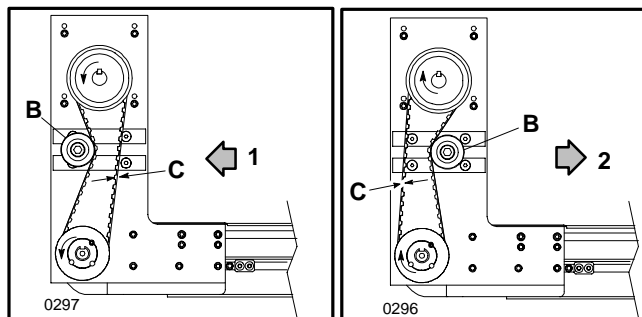
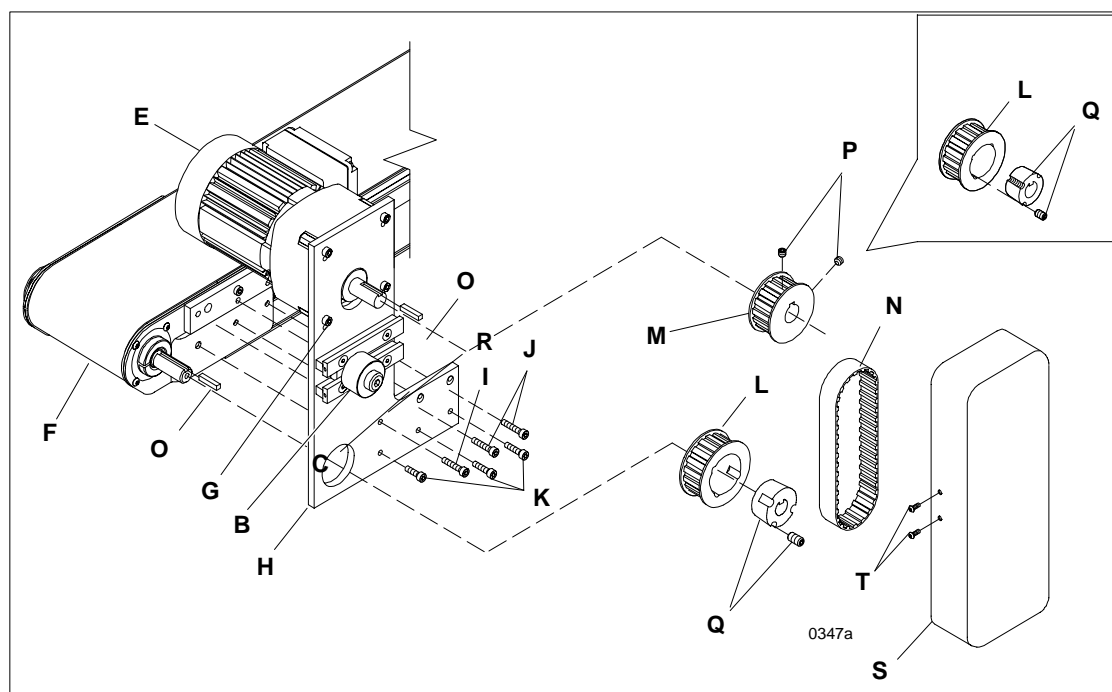

Figure 11: Top Drive Timing Belt Adjustment Detail
Figure 12: Top Drive Component Assembly Detail
1. Refer to Figure 12 and attach the gearmotor (**E**) and the mounting plate to the conveyor (**F**) using one M6 x 30 mm socket head cap screw (**I**) in the top mounting hole of the mounting plate, two M6 x 16 socket head cap
The upper set (of 4) gearmotor mounting plate holes (**G** of Figure 12) is only used when both gearmotor and conveyor shafts will have 16 tooth pulleys mounted to them. All other pulley combinations, use the lower set of mounting plate holes.
2. Assemble the drive and driven pulleys (**M** and/or **L**) and timing belt (**N**). Place a square key (**O**) into the keyway on the gearmotor and conveyor shafts. Install the pulleys so that the timing belt is centered on the belt tensioning roller assembly (**B** of Figures 11 & 12) and the pulleys are in line with each other. Tighten the pulley set screws (**P** of Figure 12) or Taper Lock[®] bushing screws (**Q**), which fasten the pulleys to the shafts. Determine which direction the conveyor belt is traveling and position the tensioning roller assembly on the slack side of the timing belt (Figure 11).
3. Adjust timing belt tension by loosening the M12 x 25 mm socket head cap screw (**R** of Figure 12) and sliding
the belt tensioning roller assembly (**B** of Figures 11 & 12) against the belt. Tension should be measured at mid-point (**C** of Figure 11) of on the tension side of the timing belt. As a starting point for the tensioning process, there should be a 1/8" (3 mm) deflection with 6 lb (3kg or 26 N) of force.
- Attach the top drive cover (**S** of Figure 12) using four M4 x 10 mm button head cap screws (**T**).